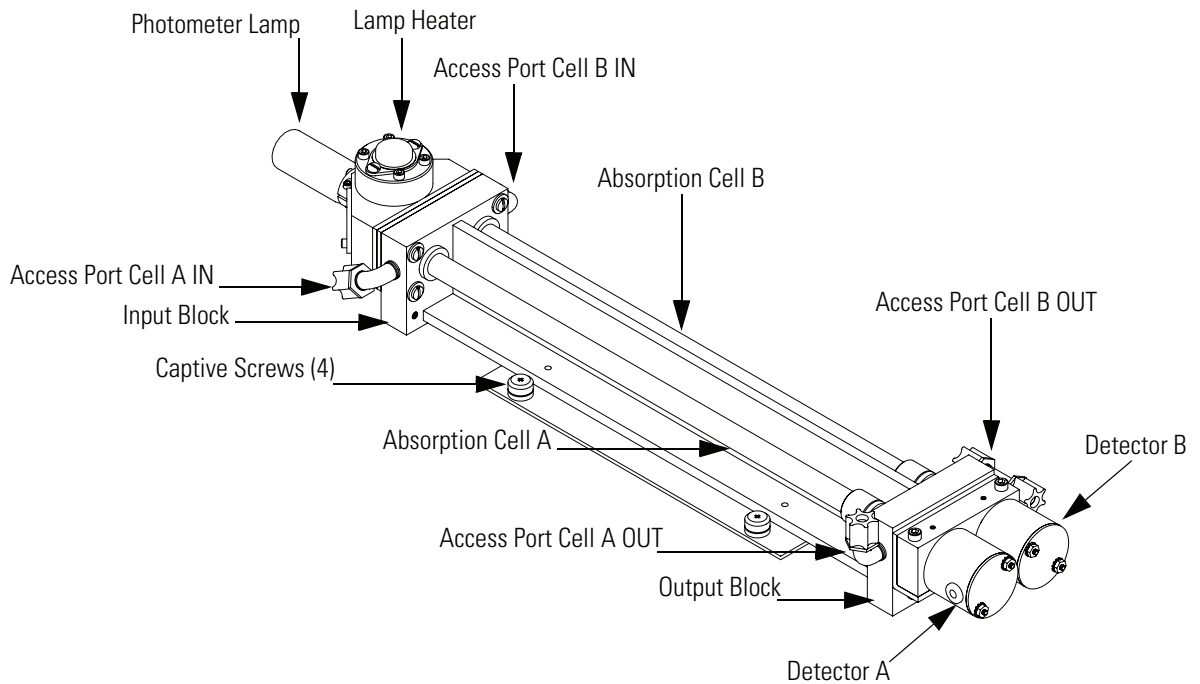

Figure 6-11. Replacing the Optical Bench
Use the following procedure to replace the optical bench (Figure 6-11).
4. Loosen the captive screws (4) securing the optical bench to the floor plate (Figure 6-11) and remove the bench by first moving the photometer slightly towards the rear through the lamp access hole and then lifting up and towards the front.
Use the following procedure to replace a detector (Figure 6-11).